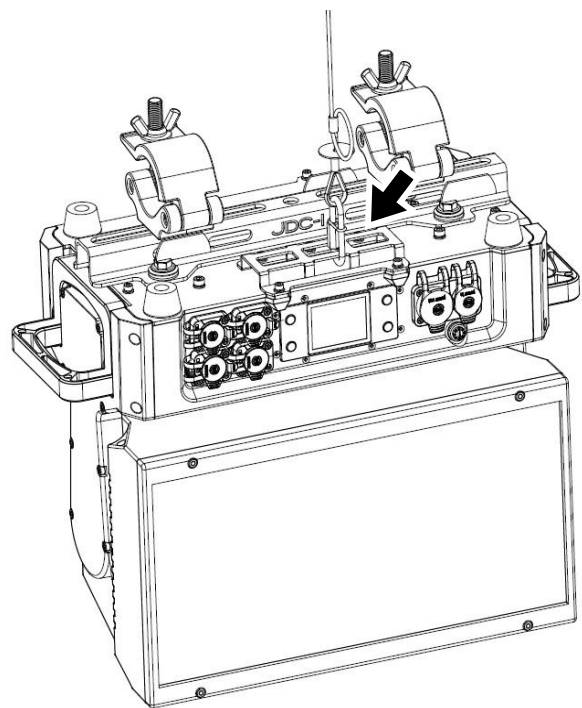

Figure 4. Safety cable attachment
3. See Figure 4. Fasten the safety cable to the safety attachment bracket (arrowed) on the base of the unit.